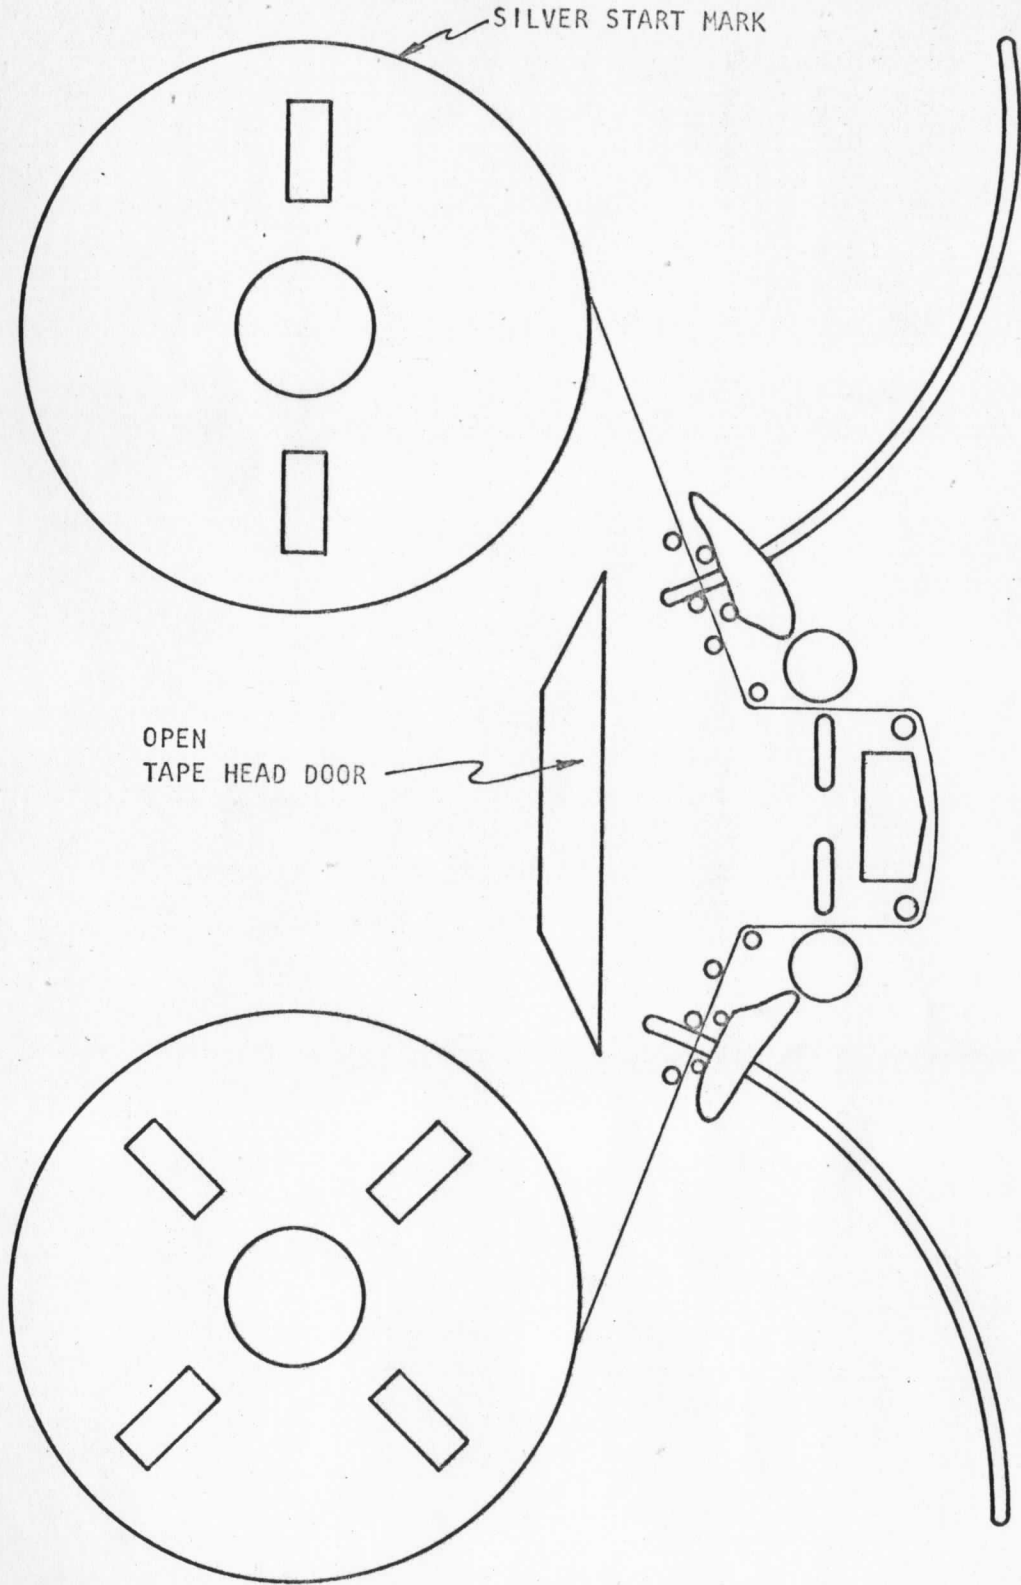

FIGURE 2
10. Thread the digital recorder as shown in figure 2.